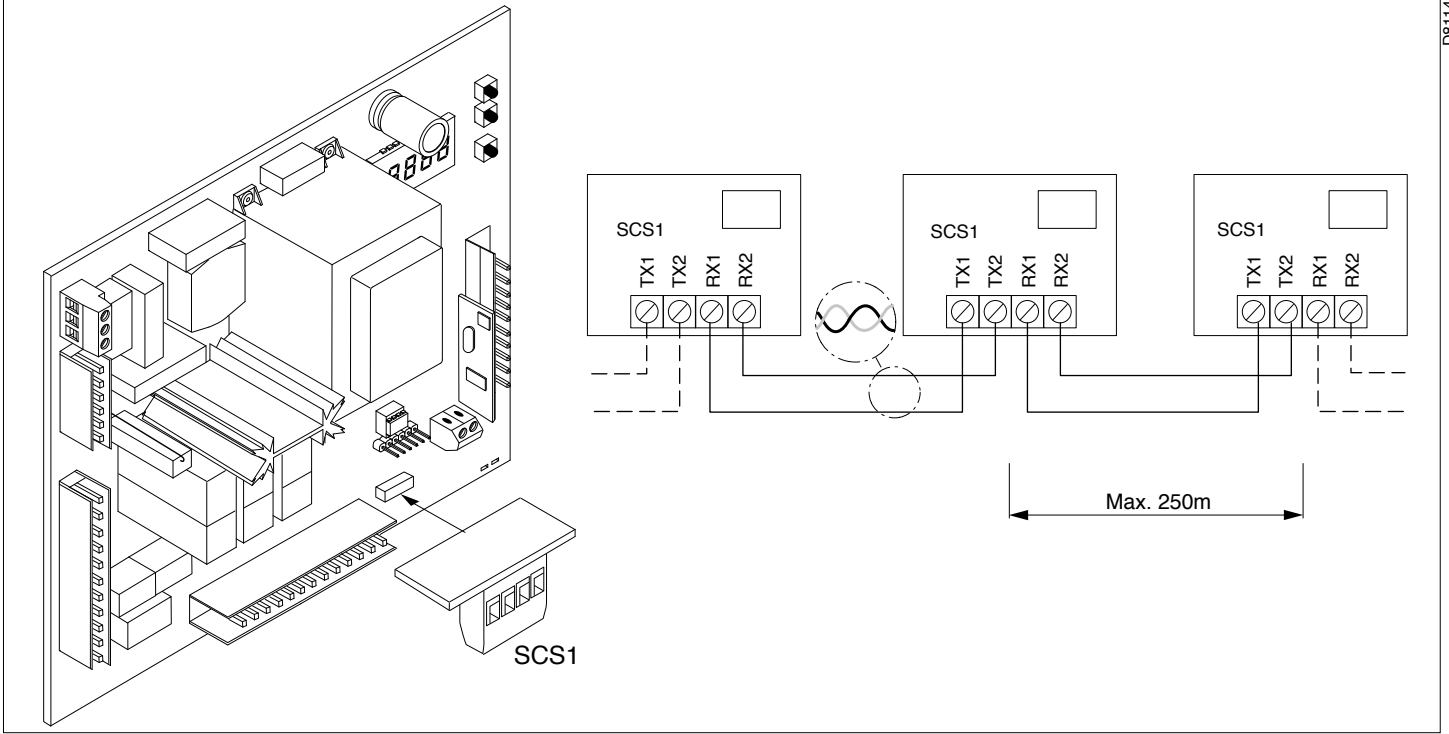

Fig. 6
11.1) Opposite sliding leaves (Fig.6)